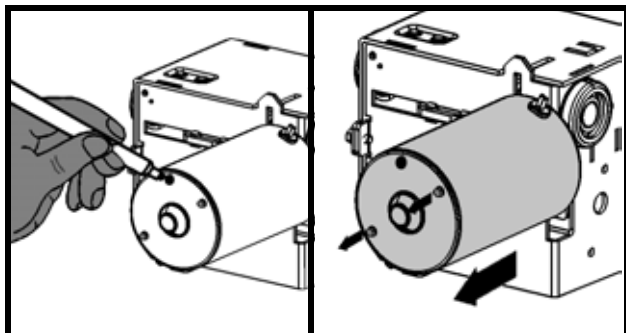
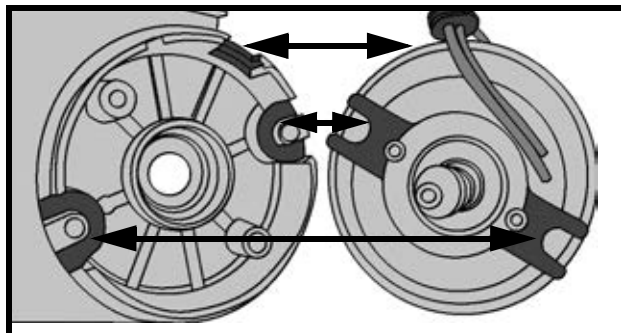

Fig. 41
Fig. 42
- 4) Put a mark on the back of the motor housing to indicate the top of the housing, this mark will be your reference to make sure that the motor is reassembled in the right position (see Fig. 41).
- 5) Remove the 2 screws on the back of the motor using a M8 hex socket and pull the motor assembly out (see Fig. 41).
- Position the rubber grommet into the top groove making sure that the connection point of the wires inside the motor are above the shaft (see Fig. 42).
- Position the motor plate into the side grooves. It is very important to position the motor housing in the same orientation as it was prior to disassembling, i.e. that the mark is positioned upward (see Fig. 41), and making sure that the contact point of the wires inside the motor are placed above the shaft (see Fig. 42).